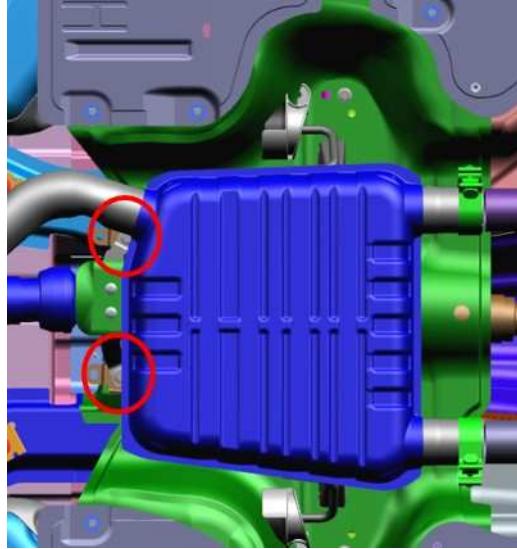

Fig. 19
- Remove the remaining two bolts securing the mid muffler heat shield (Fig. 19) .
12. Install two bolts securing the mid muffler heat shield (Fig. 19) . Tighten the bolts to 55 N·m (486 in. lbs.).